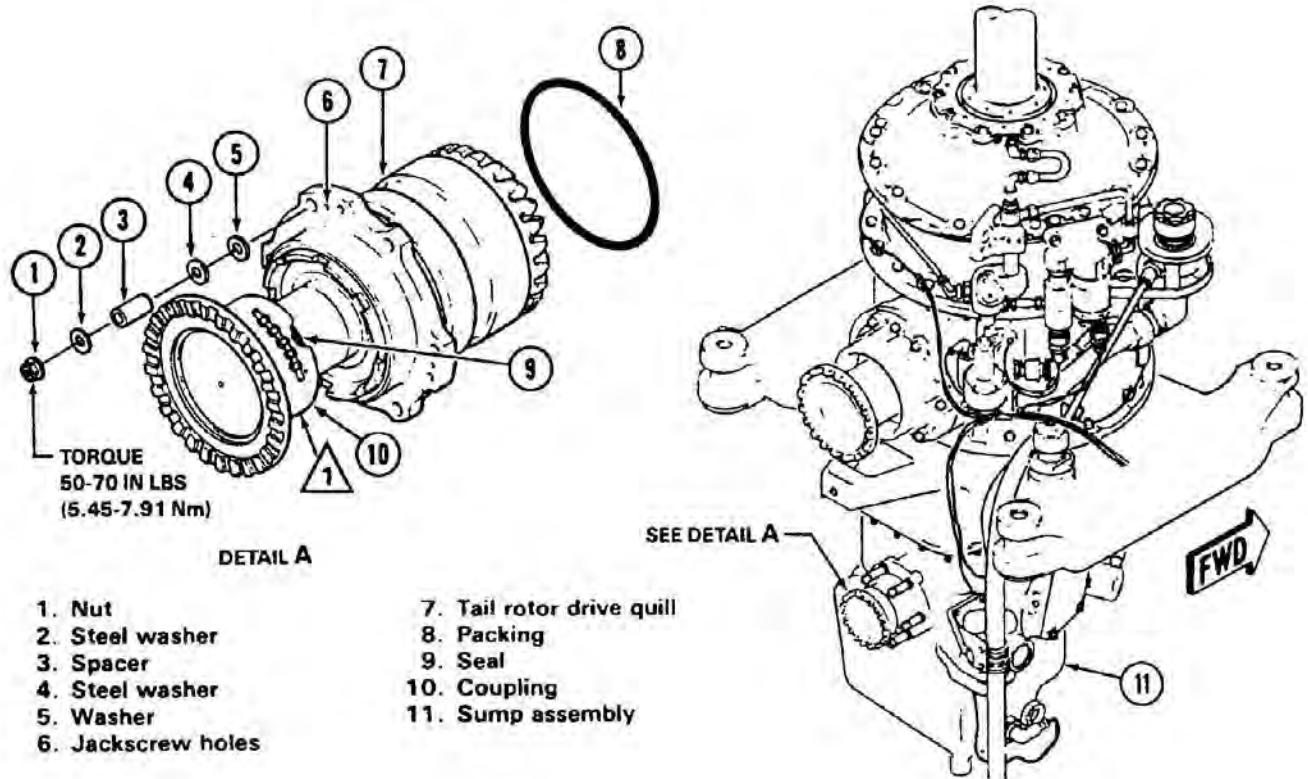

Figure 63-42. Tail Rotor Drive Quill
63.7.2.1.3 Remove nuts (1, Figure 63-42), washers (2, 4, and 5), and spacers (3) from six mounting studs around drive quill flange. Remove sealant from around quill sleeve and jackscrew holes (6).
63.7.2.3.1 Inspect coupling (10, Figure 63-42) for grease leakage. Wetting of adjacent areas by grease is cause for replacement of defective parts with the following exception: A small amount of grease expelled from around lip of seal (9) and/or other quill parts provided the following evaluation of grease leakage is accomplished.
63.7.2.5.2 Replace seal (9, Figure 63-42) in accordance with BHT-212-CR&O.
63.7.2.6.1 Install packing (8, Figure 63-42) in groove around drive quill sleeve (7).